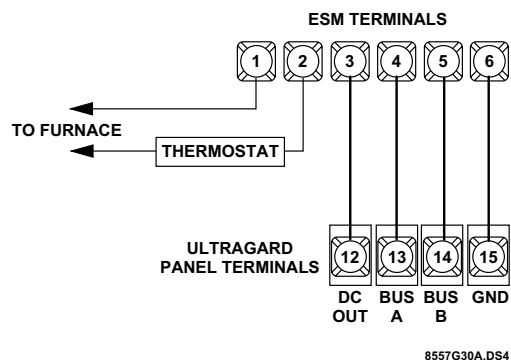

Figure 5. ESM Wiring Connections to the Thermostat and UltraGard Panel Terminals
4. Connect terminals 3 through 6 to the panel as shown in Figure 5.